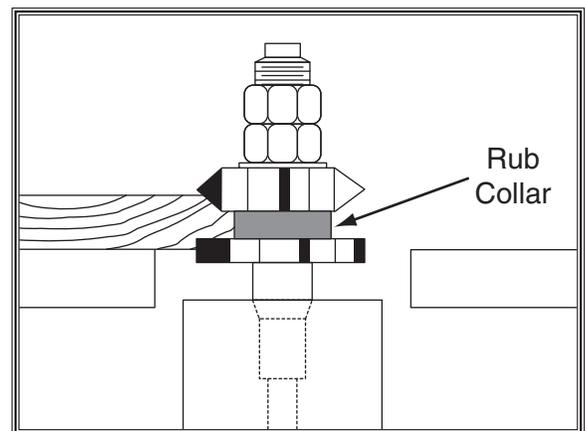

Figure 54. Rub collar installed between two cutters.
- Rub collar between two cutters:** Using a rub collar between two cutters has the distinct advantage of performing two cuts at once or eliminating the need to change cutters for two different operations, as illustrated in **Figure 54**. Notice the part of the edge that is left uncut rides on the rub collar.